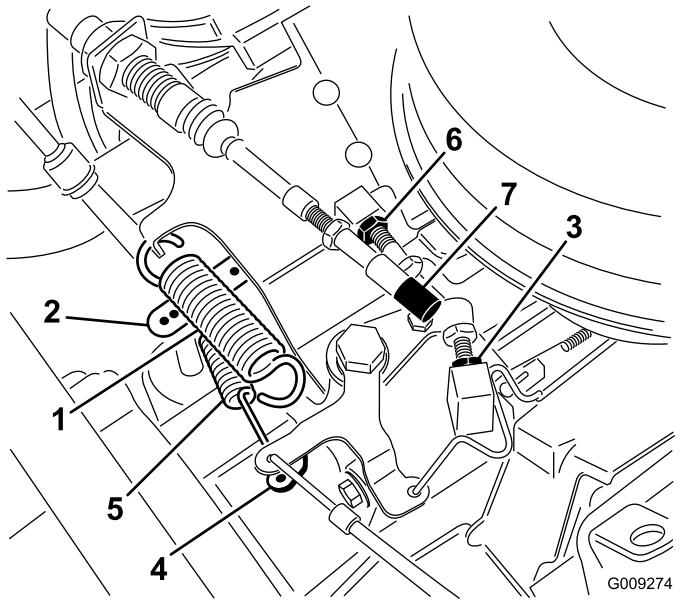

Figure 59
2. With the return spring installed, hold the engine governor arm toward the operator's side of the machine and adjust the low-idle stop to obtain a 0.25 to 1.25 mm (0.01 to 0.05 inch) gap between the outside diameter of the hole in the throttle lever and the inside of the governor-spring hook (Figure 59).